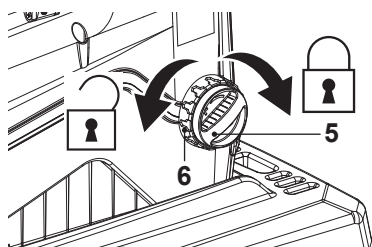

Fig. 7
2. Turn the lock ring (6) anticlockwise, to free the counterblade adjuster (5) (Fig. 7).